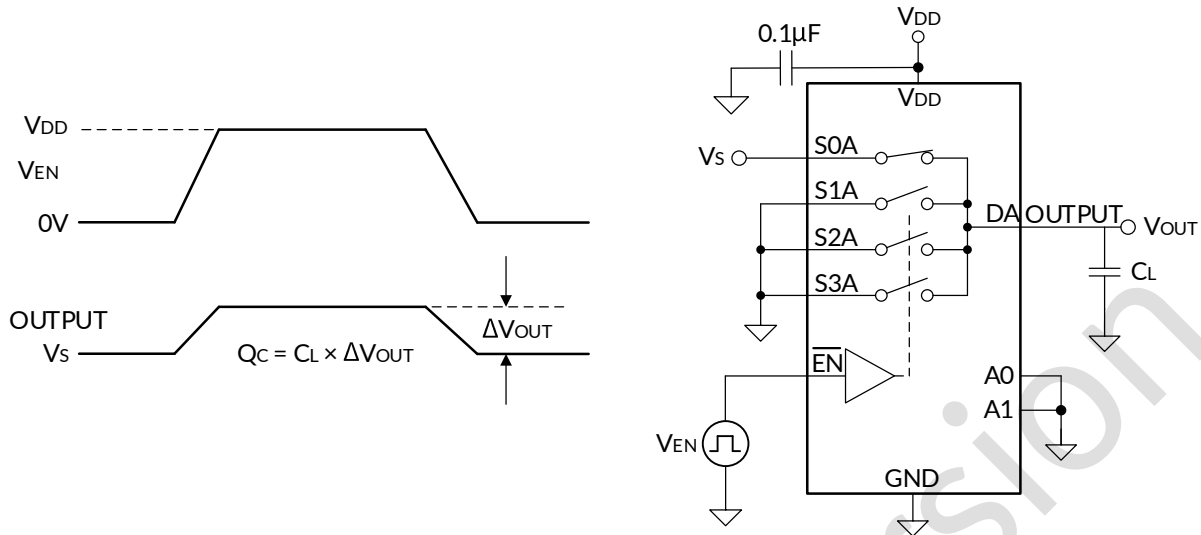

Figure 17. Charge-Injection Measurement Setup
The RMUX1309-Q1 device has a transmission-gate topology. Any mismatch in capacitance between the NMOS and PMOS transistors results in a charge injected into the drain or source during the falling or rising edge of the gate signal. The amount of charge injected into the source or drain of the device is known as charge injection, and is denoted by the symbol Q_C . Figure 17 shows the setup used to measure charge injection from source (S_x) to drain (D).